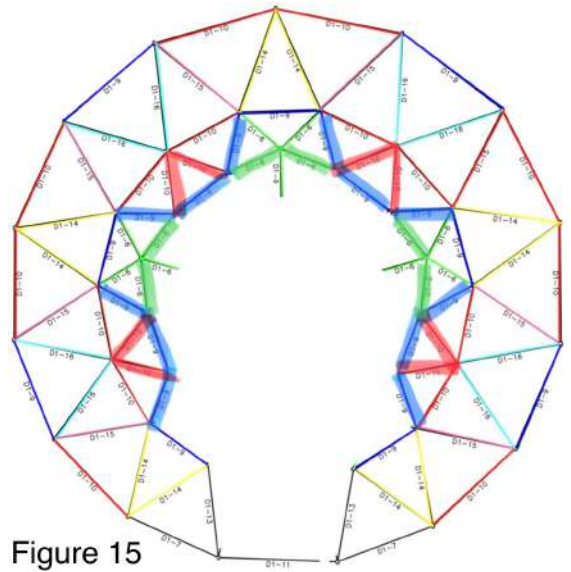

Figure 15
- Four of the **#9 struts** will contribute to the *horizontal* second layer of the dome, and eight of the **#9 struts** will make up the *vertical* second layer of the dome (**#9 struts** highlighted blue, **Figure 15**)
- All of the **#10 struts** will contribute to the *vertical* second layer of the dome (highlighted red, **Figure 15**)
- Place the vertical #9 struts on either side of the attached #6-struts of the 5-pointed star. Add a washer before screwing on the nut. At the upper end of the same #9 strut, attach the next innermost #6 strut of the pre-assembled 5-pointed star to form a triangle (highlighted green, **Figure 15**). Repeat this pattern on either side of the free-standing 5-pointed stars.
- Place the vertical #10 struts (highlighted red, **Figure 15**) in between the #9 struts assembled in the step above
- Place the horizontal #9 struts (highlighted blue, **Figure 15**) in between the #10 struts from the step above